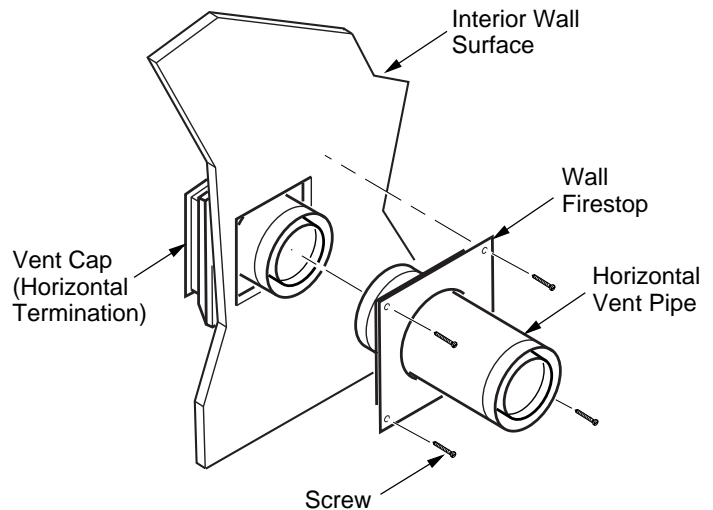
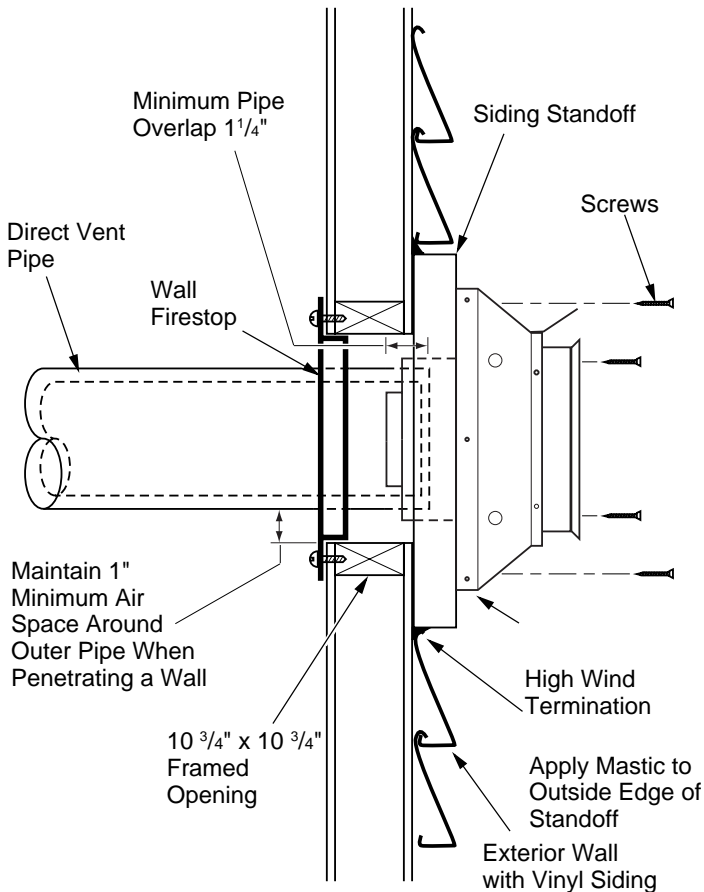

Figure 12 - Connecting Vent Cap with Horizontal Vent Pipe
Figure 13 - Typical Horizontal Termination Cap Mounting with Additional Siding Standoff Installed
- Combustible Exterior Wall Only:** Slide the wall firestop over the vent pipe before connecting horizontal run to vent cap (see Figure 12).
- Combustible Exterior Wall Only:** Slide wall firestop against interior wall surface and attach with screws provided (see Figure 12). See Figure 13 for horizontal termination details.